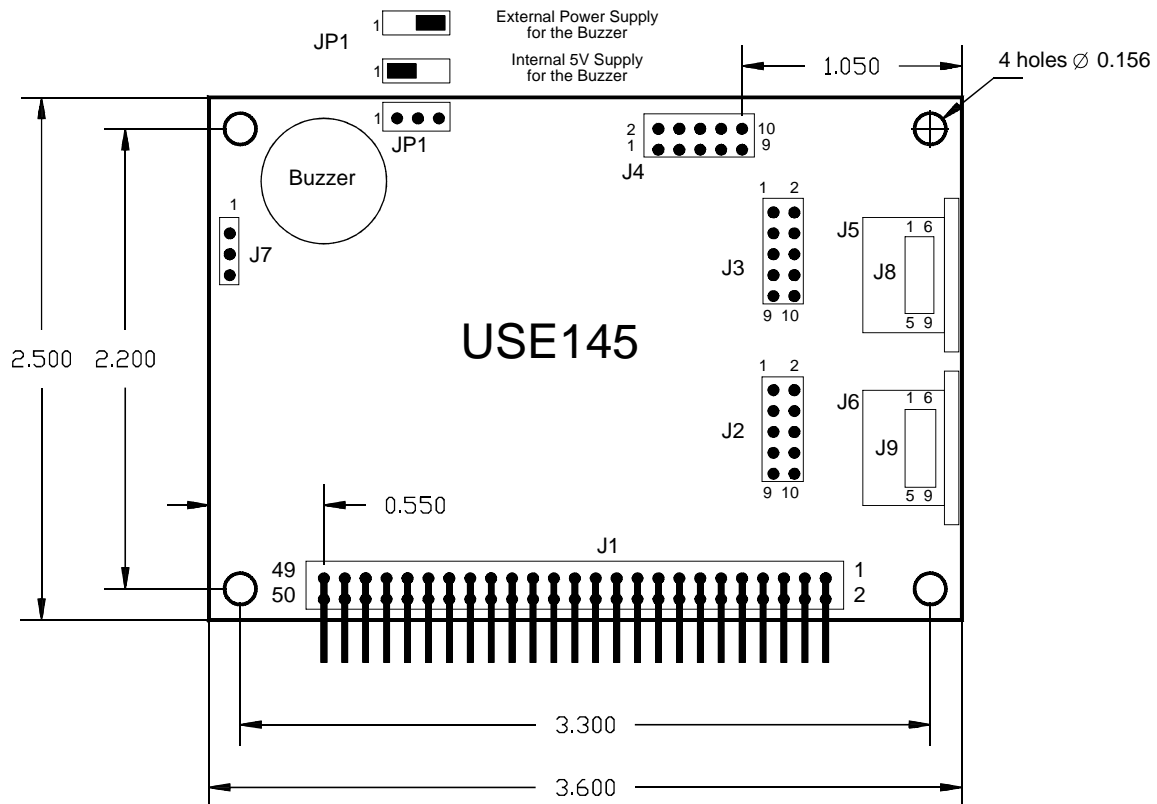
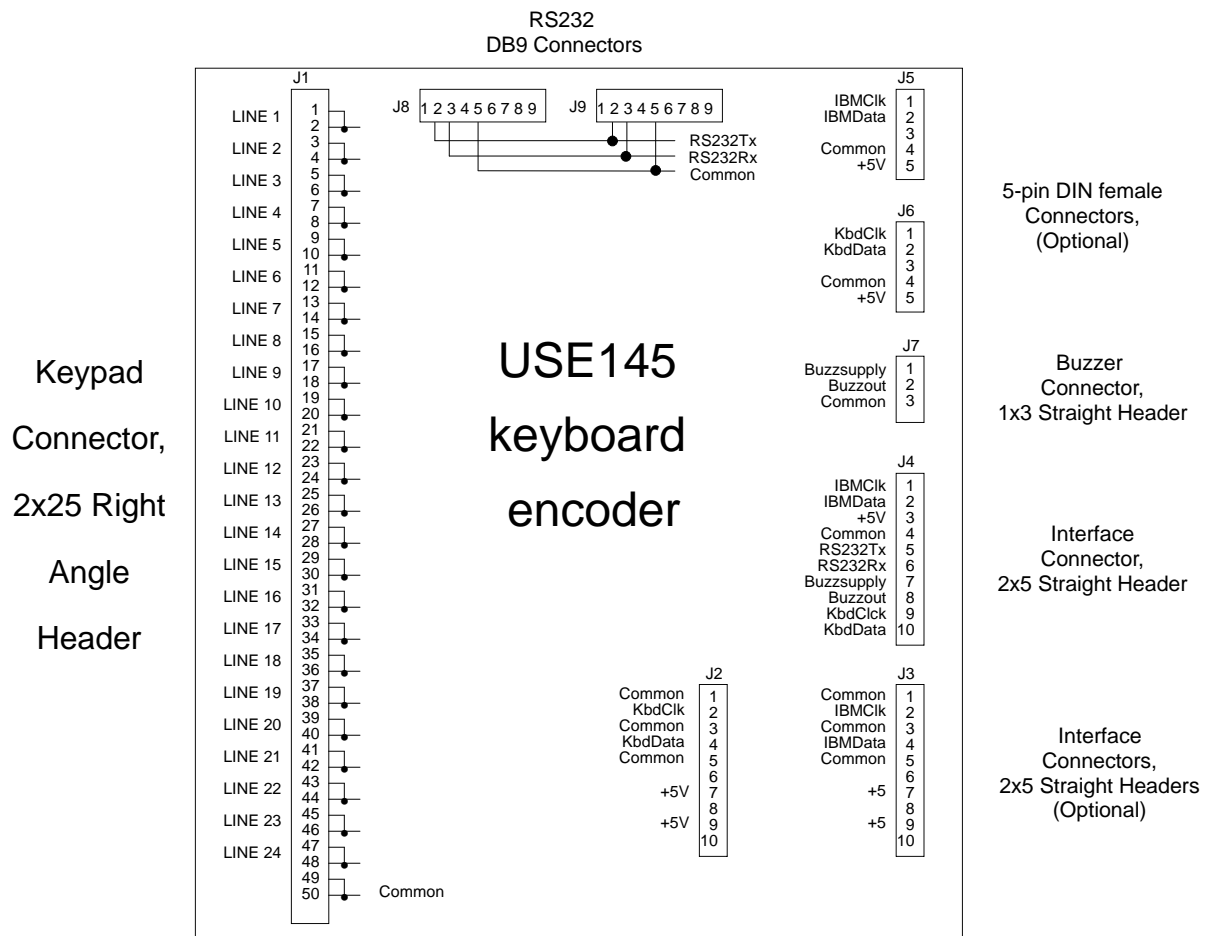

Figure 1
Figure 2
Both on board and external “self-drive” type buzzers can be used. In the first case you can either use an external power supply (BUZZSUPPLY input, see Fig. 2), or 5V already used in the USE145. The USE145 board can accommodate buzzers with lead spacing of either 0.2” or 0.3” such as **TMB** or **HMB** types from **STAR MICRONICS** or similar. The external/internal power supply option is selected by the jumper JP1.
If you use an external buzzer, the USE145 provides an “open collector” output “BUZZOUT”, (Fig. 2) which allows you to connect a buzzer with maximum ratings up to 20 V/100 mA. The output provides a single negative pulse 60 msec duration. You can also use this output to control other types of signaling devices.
**Figure 1** shows the position of all the connectors, together with the mounting dimensions for the USE145, **Figure 2** shows their pinouts